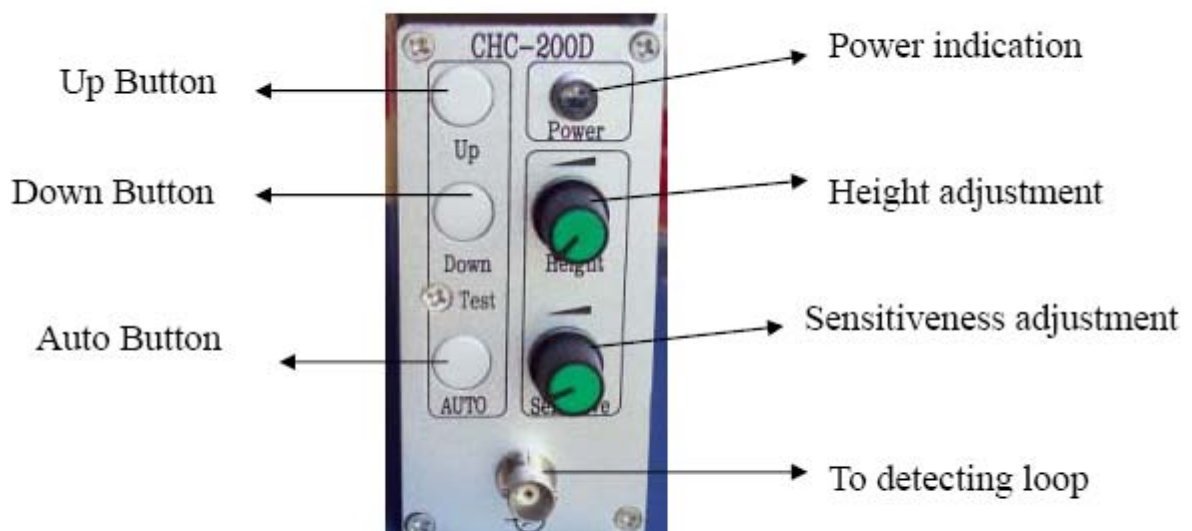

Figure 8 : View of operation panel
1、 The operation panel of CHC-200D as Figure 8 shows: